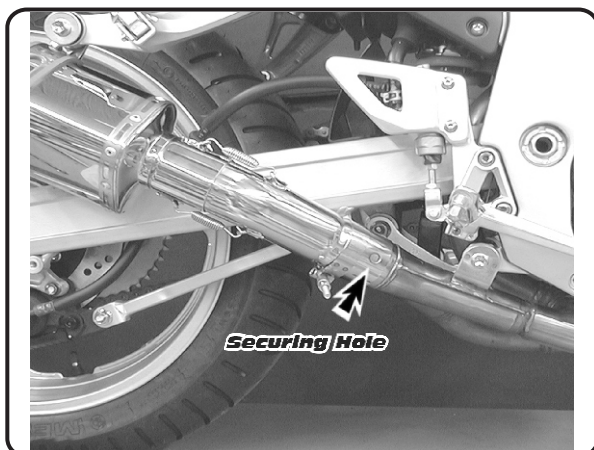

Fig. 7
- 6 Install supplied collector clamp over Slip-on mid-pipe with bolt to the inside and facing down. Install slip-on over cut portion of stock system. Ensure mid-pipe is fully seated on stock pipe.(See Fig. 7) Do not tighten clamp.
9 Drill 13/64" hole in stock header and in the center of the hole on the mid-pipe (See Fig 7). Install supplied collector rivet so the head of the rivet is flush on the mid-pipe. Center collector clamp over rivet and torque clamp nut to 2.0 kg-m (14.5 lb-ft).